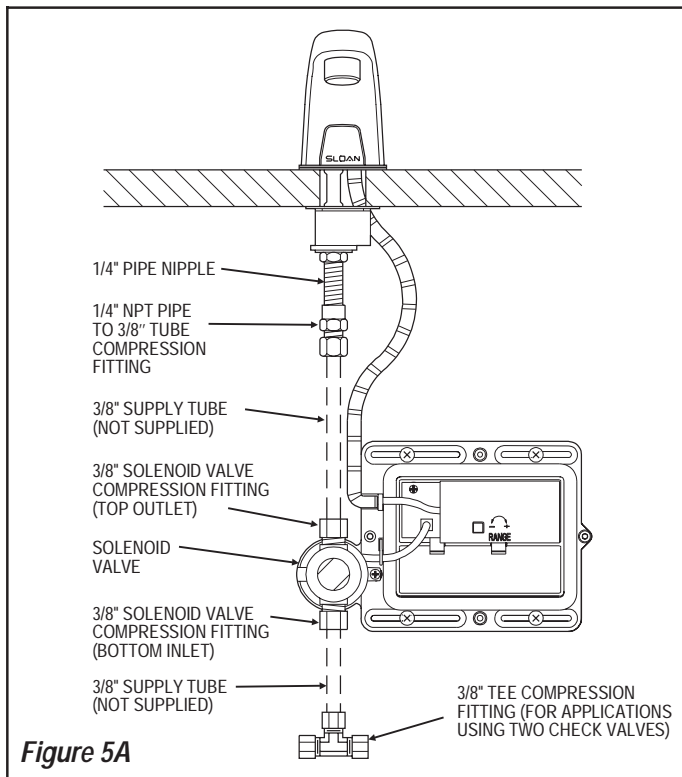

Figure 5A
Step 5 — Connect Supply Line From Solenoid Valve Outlet to Faucet (Figures 5A and 5B)
For Model 615 — Install the 1/4 inch Pipe to 3/8 inch Tube Compression Fitting onto the Spout's Pipe Nipple (refer to Figure 5A).